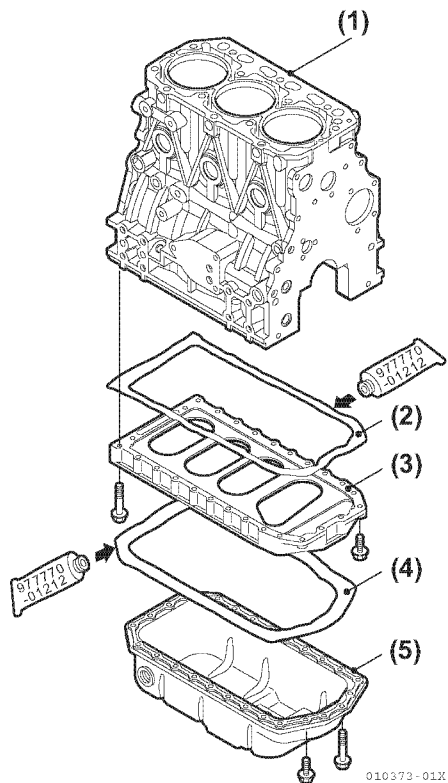

Figure 5-146
- Apply Three Bond 1207F to the three surfaces (Figure 5-146).